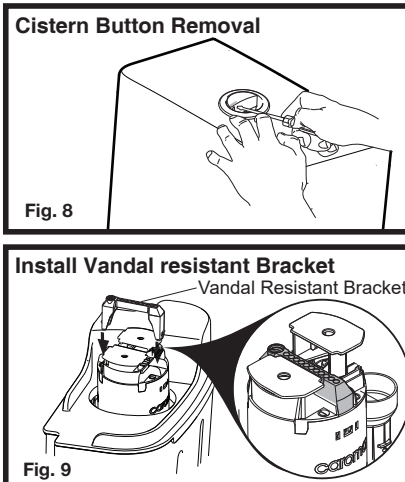

Fig. 7
- 7- Connect pan to connector and locate plastic fixing sleeve into holes in the pan. Fit screw into the bracket and tighten to bed pan to floor while ensuring level, as detailed in Fig. 7.
IMPORTANT - DO NOT OVERTIGHTEN, AS THIS MAY CRACK THE PAN FOOT. Snap on plastic cap, as detailed in Fig. 7.